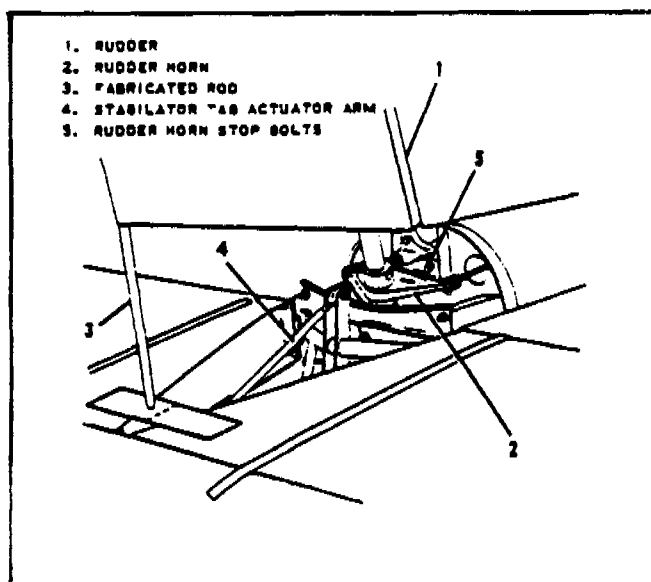

FIGURE 5-6. DETERMINING NEUTRAL RUDDER POSITION
5. Insert a small diameter rod into the bottom of the rudder at the trailing edge, and allow its end to extend down to the stabilator trim control rod. (Refer to Figure 5-6.)
6. Apply masking tape at 90° to airplane centerline, between stabilator halves immediately beneath rod inserted on rudder. On tape, mark the airplane centerline (stabilator tab actuator arm rod). (Refer to Figure 5-6.)